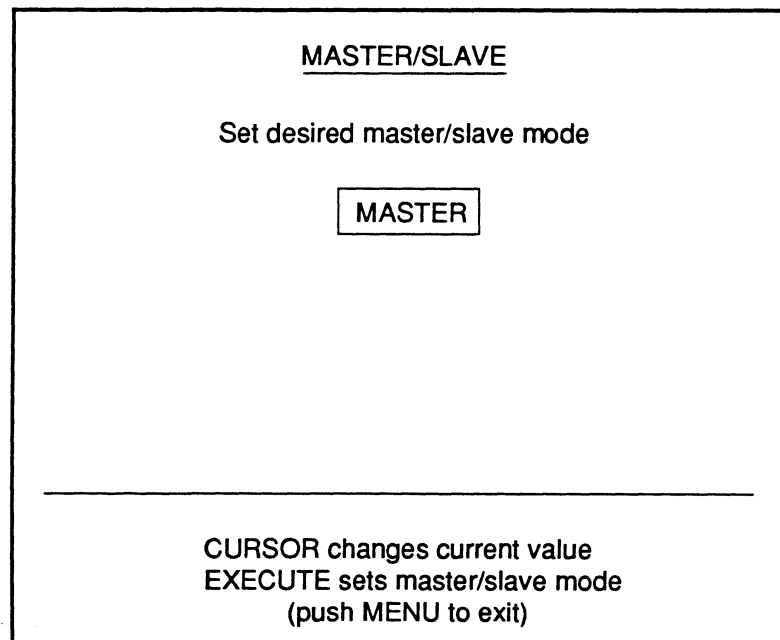

Figure 2 - Master/Slave Selection Screen
1. Execute MASTER/SLAVE. The Master/Slave Selection Screen appears (Figure 2).